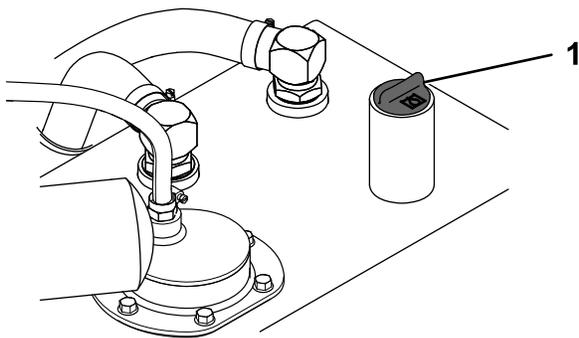

Figure 80
6. Clean the area around the filler neck of the hydraulic tank (Figure 80).